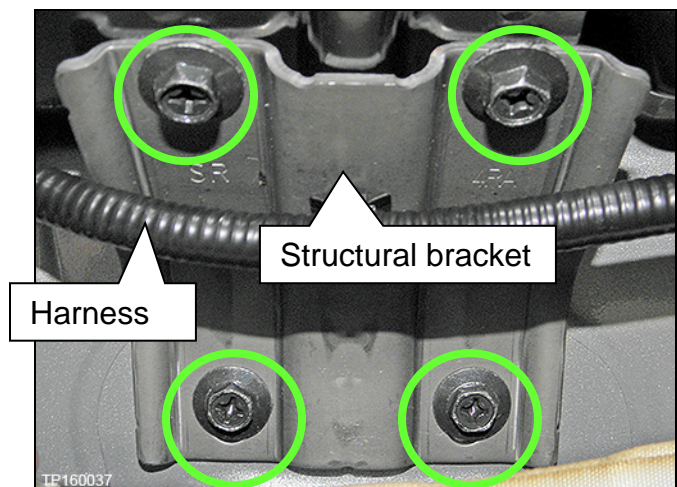

Figure 54
4. Remove the left and right structural brackets (Figure 54) attached to the center reinforcement support (4 bolts each; highlighted in Figure 54).
NOTE: It is not necessary to remove the harness from the driver's side bracket (Figure 54).